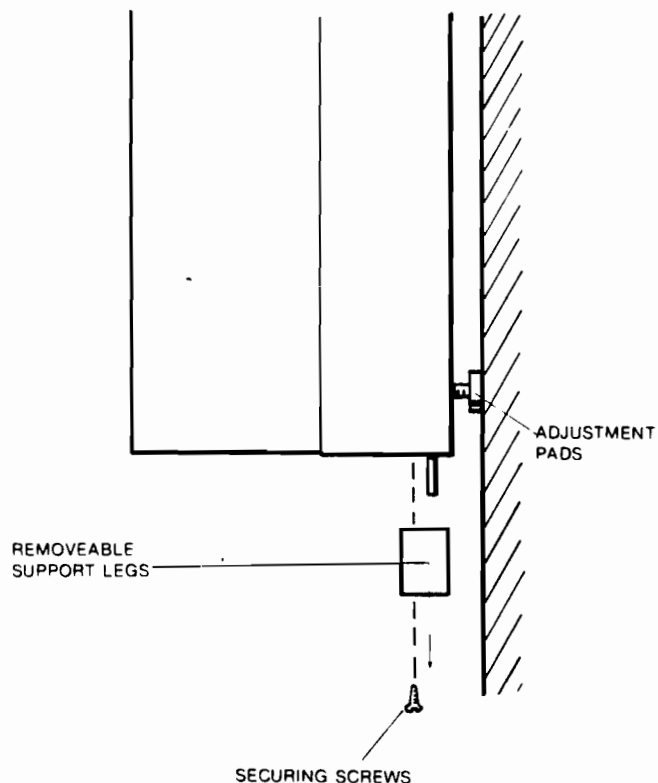
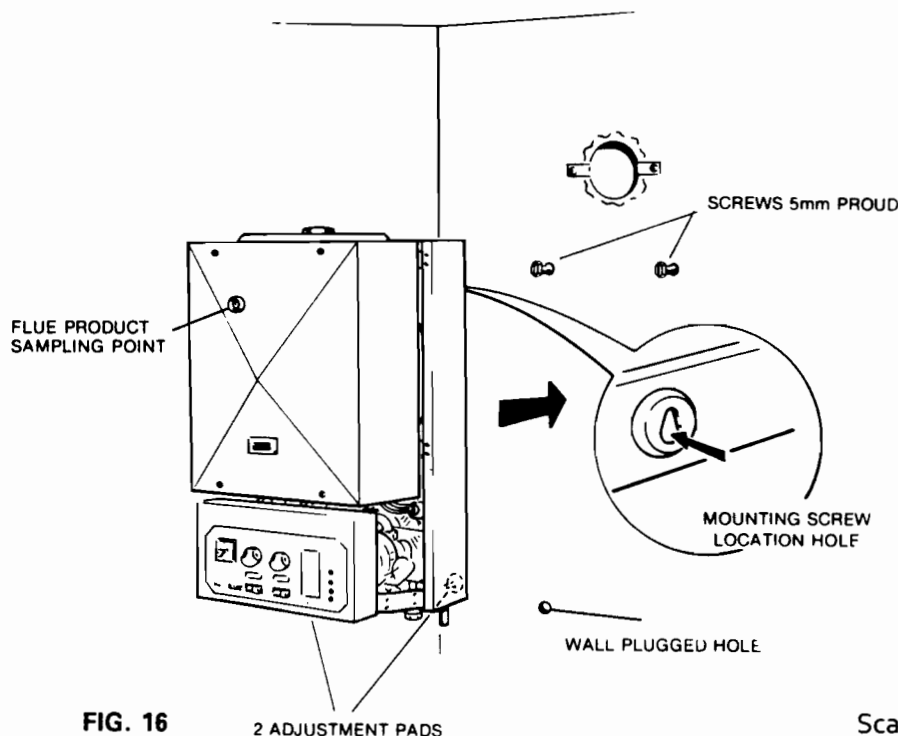

FIG. 10 BOILER ALIGNMENT
FIG. 16
Two adjustment pads located at the bottom of the combination boiler back panel, are provided to facilitate combination boiler alignment (see Fig. 10).
Note: Two removable support legs are fitted to the base of the boiler to protect the pipework, care must still be taken when handling the combination boiler to prevent damage to pipework situated at the base of the appliance (see Fig. 10).
- j) Lift the appliance into position, ensure the screw heads go through the two pear shaped mounting holes (see Fig. 16). Take up any wall irregularities by using the finger adjustment pads (see Fig. 10). Fully tighten the two top mounting screws.